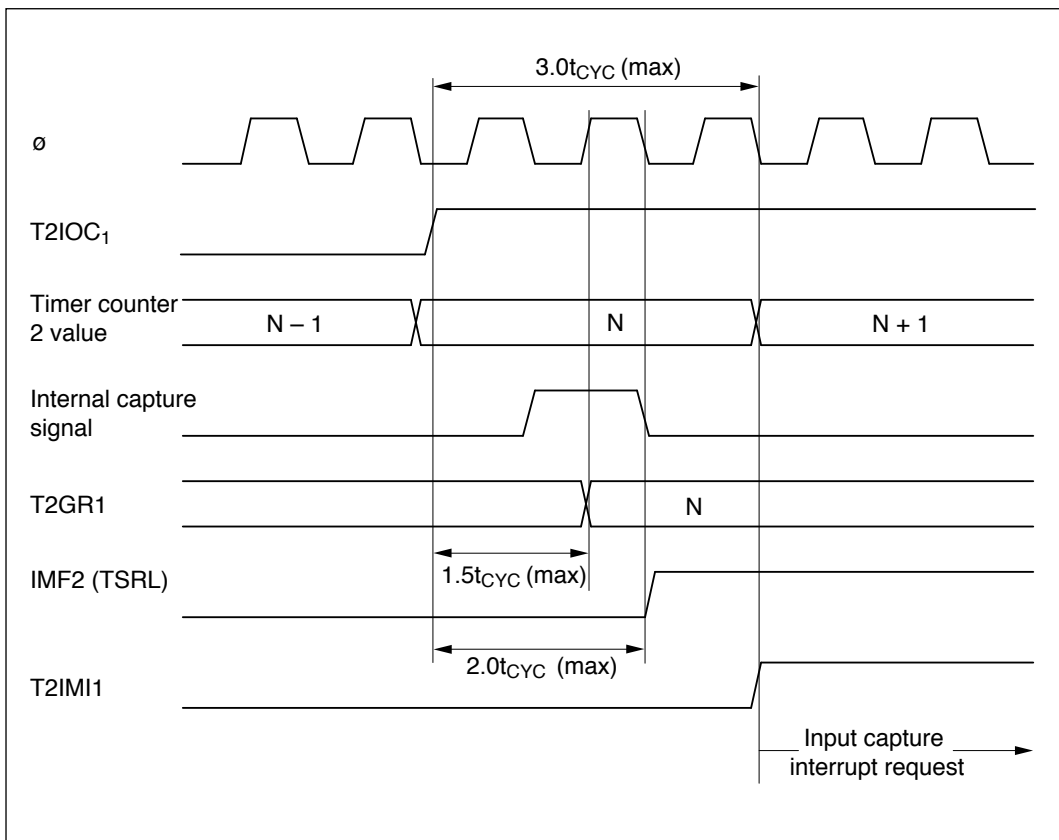

Figure 10-47 Timing from Capture Input to Input Capture Interrupt Request
(2) Input Capture Timing: Figure 10-47 shows the timing from capture signal input to generation of an input capture interrupt request. A maximum $1.5t_{CYC}$ after input of the capture signal, the IPU transfers the timer counter value (N) to T2GR1. The input capture/compare match flag (IMF) is set $0.5t_{CYC}$ after the input capture transfer. The interrupt request (T2IMI1) is generated $1.0t_{CYC}$ after IMF is set. The T2IMI1 interrupt request therefore comes a maximum $3.0t_{CYC}$ after input of the capture signal.